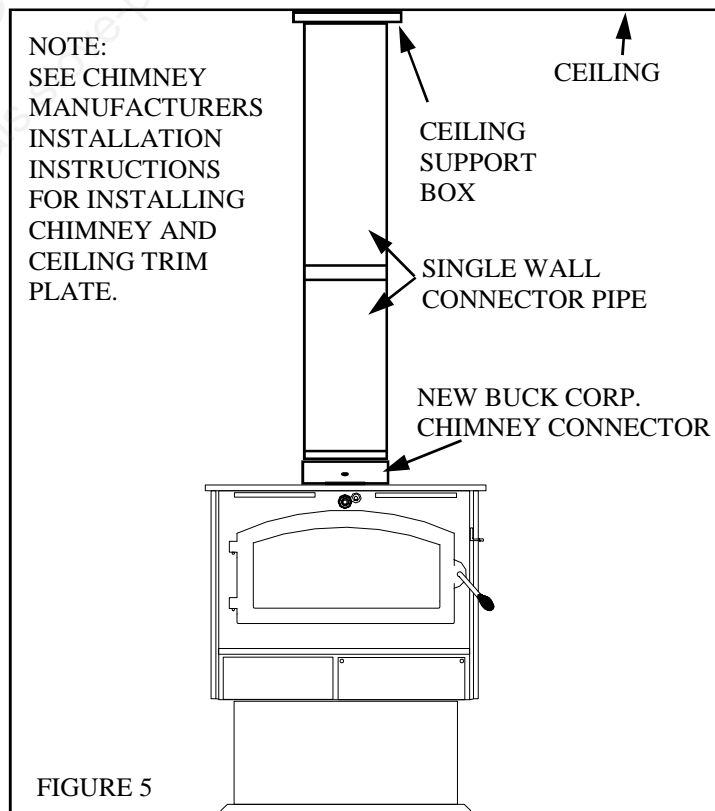

FIGURE 5
3. Now connect stove and ceiling support box using #24 ga. minimum blued or black steel connector pipe (DO NOT USE GALVANIZED PIPE). Connect each section so crimped end faces downward and secure each section to each other using at least three (3) sheet metal screws or rivets. Single wall pipe is to be connected with 3 screws or rivets to New Buck Corporation Chimney Connector after connector has been attached to stove. (See Figure 5)